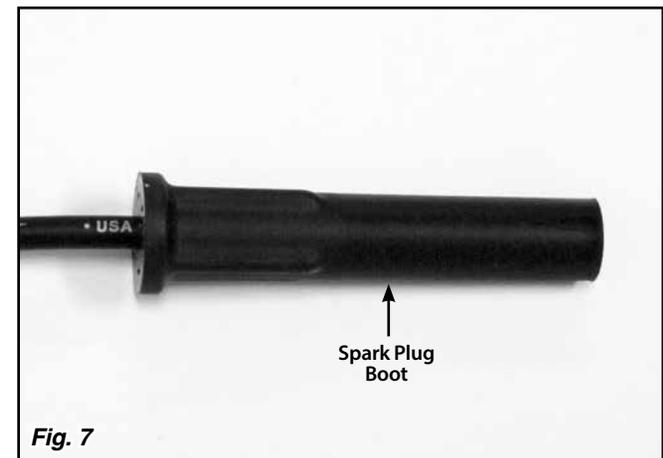

Fig. 7
Step 11: Spray the plug wire with silicone lubricant again, and carefully slide the spark plug boot back down the plug wire and over the spark plug terminal until you feel it stop. **Fig. 7**